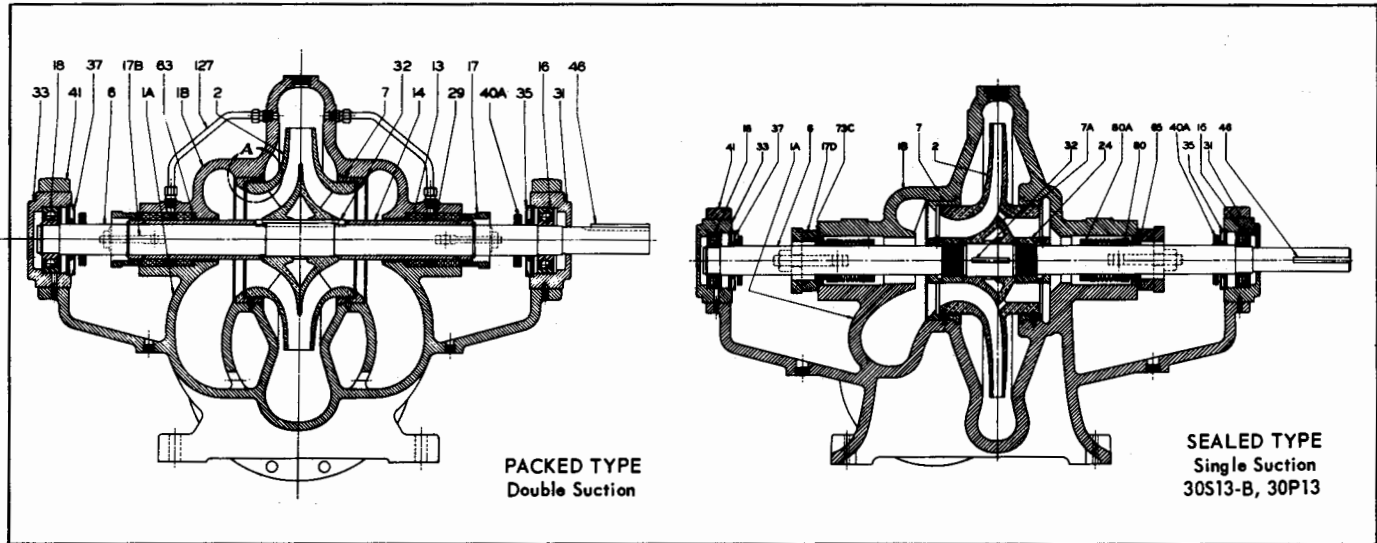
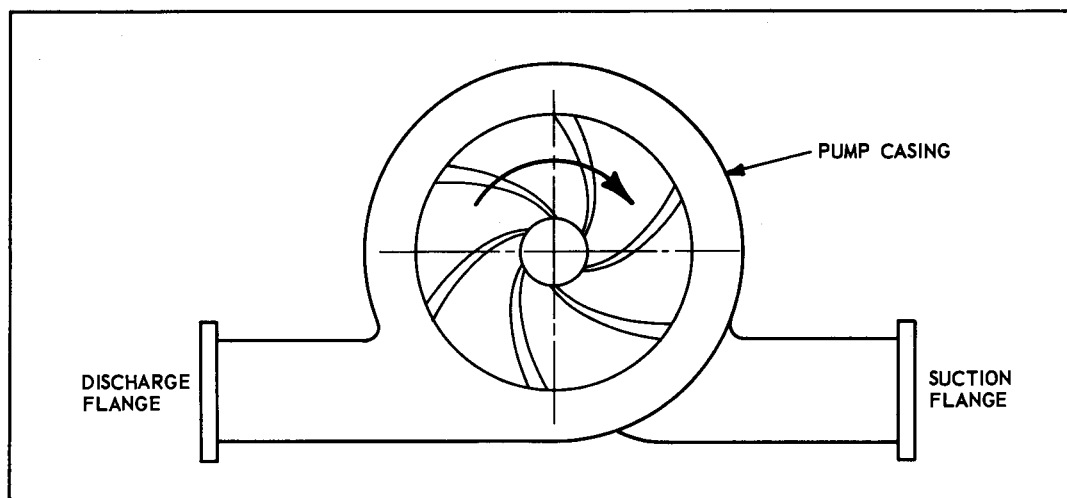

FIGURE 1. PACKED OR SEALED TYPE PUMP CROSS SECTION
FIGURE 4. VANE POSITION FOR PROPER ROTATION
1-3. Remove the rotating element in the following manner (see figure 1 or 2):
- Coat shaft (6, figure 1 or 2) lightly with oil.
- Replace impeller key (32) in shaft slot.
- Align impeller (2) on shaft and install with an arbor press or with a tubular sleeve and mallet. Guard against bending shaft.
- When assembled, the impeller vanes must rotate in the direction shown in figure 4.
- Install O-rings in shaft sleeves (14, figure 1) and push shaft sleeves on shaft (6). The notch on the sleeve must engage impeller key (32). Install shaft sleeve retaining rings in their grooves on shaft.
- Place stuffing box bushings (63) and lantern rings (29) on shaft.
- Assemble impeller nuts (24) on shaft (6), but do not tighten the set screws yet.
- Place casing rings (7) on impeller. (2).
- Before completing the seal installation, wipe the lapped sealing faces of the seat and washer perfectly clean with a soft cloth. Then oil only seat and washer faces with clean oil. Do not wipe off excess oil with fingers or cloth. Do not use oil on shaft. Install mechanical seal rotating elements (80) and stationary elements (65) on shaft. Be careful not to cut the rubber bellows on shaft edges or to break the seal elements.
- Slide water deflectors (40A) with the thin end first on shaft, completely compressing the seal springs against impeller nuts (24), then tighten the deflector set screws.
- Install bearings (16) and (18) on shaft as shown in Bulletin No. 2880549. Install the bearing-to-shaft retaining ring.
3-3. Install the rotating element in the following manner (See figure 1 or 2):